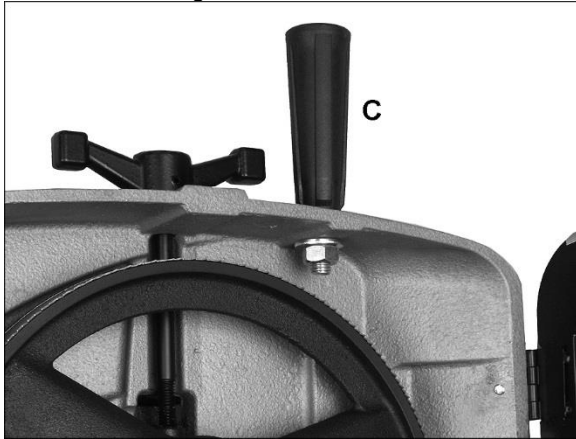
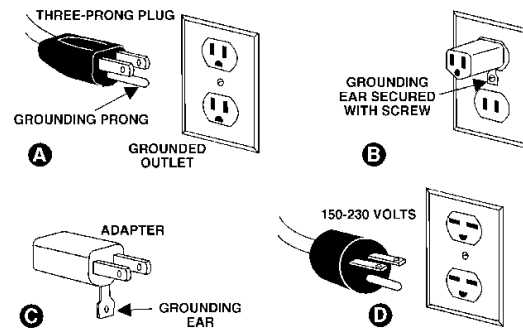

Figure 6-5: installing handle
Figure 7-1: grounding
4. Install handle with flat washers and nut (C, Figure 6-5), using 19mm wrench. To install, raise bow to vertical position and open guard. **CAUTION:** Spring-tensioned stop bracket (see Figure 7-1) must be rotated out of the way before raising bow.
The HVBS-712 and HVBS-712D Band Saw is rated at 115/230V power and is pre-wired for 115 volts. The band saw comes with a plug designed for use on a circuit with a *grounded outlet* that looks like the one pictured in **A**, Figure 7-1.
When operated at **115-volt**, this tool is intended for use on a circuit that has an outlet that looks like the one illustrated in **A**, Figure 7-1. An adapter, shown in **B** and **C** is not recommended. Provide a properly grounded outlet (A) installed by a qualified
When operated at **230-volt**, this tool is intended for use on a circuit that has an outlet that looks like the one illustrated in **D**, Figure 7-1. The tool has a grounding plug that looks like the plug illustrated in **D**. Make sure the tool is connected to an outlet having the same configuration as the plug. No adapter is available or should be used with this tool. If the tool must be reconnected for use on a different type of electric circuit, the reconnection should be made by qualified service personnel; and after reconnection, the tool should comply with all local codes and ordinances.